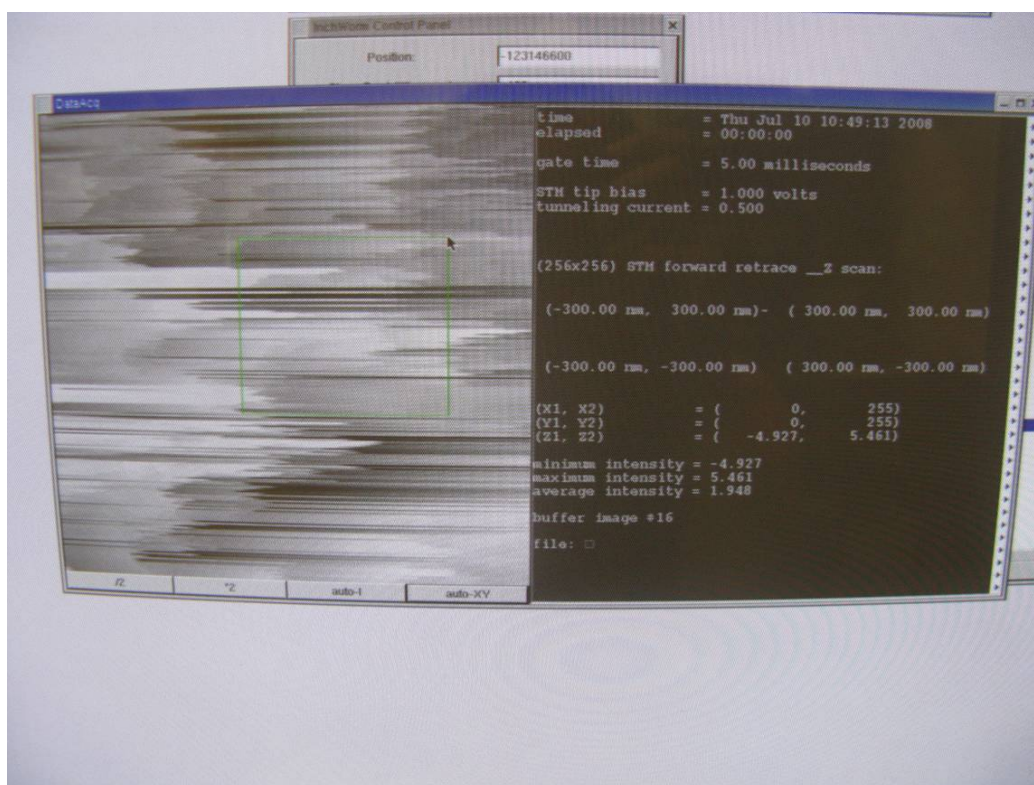

Figure 3.7 The image window.
19. When they stop changing, double click on the place you have chosen in the 'Image Sorter' to see the image (Fig. 3.7). The software has some problems so the image does not automatically refresh while scanning. Press 'Auto-I' or 'Auto-XY' on the bottom to help refreshing.